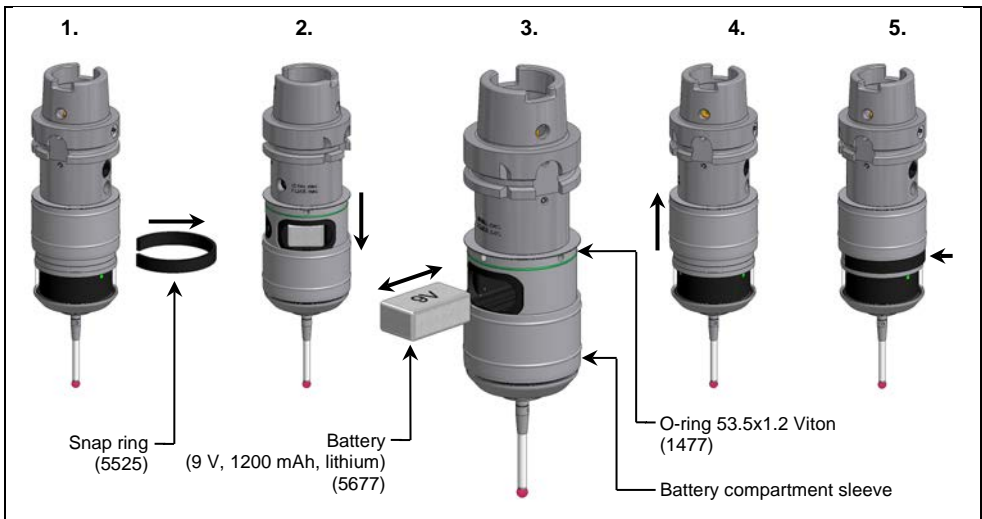

Fig. 14 Battery replacement
1. Laterally pull the snap ring off from the probe (1./Fig. 14).
2. Carefully slide the battery compartment sleeve down (2./Fig. 14).
3. Take the used battery out of the battery compartment and insert a new battery (3./Fig. 14).
4. Carefully slide the battery compartment sleeve upwards (4./Fig. 14).
5. Position the snap ring at the probe laterally and slide it over the probe (5./Fig. 14).